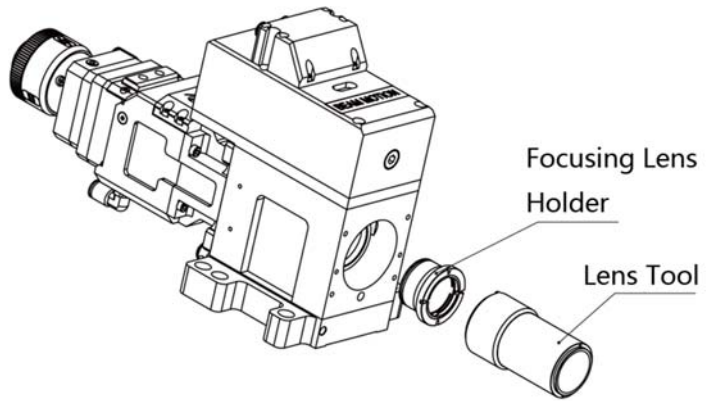

Figure 5.8 – Remove Focusing Lens Assembly
- As shown in Figure 5.8, use a lens tool to remove the focusing lens holder, and take off the pressing ring and focusing lens;